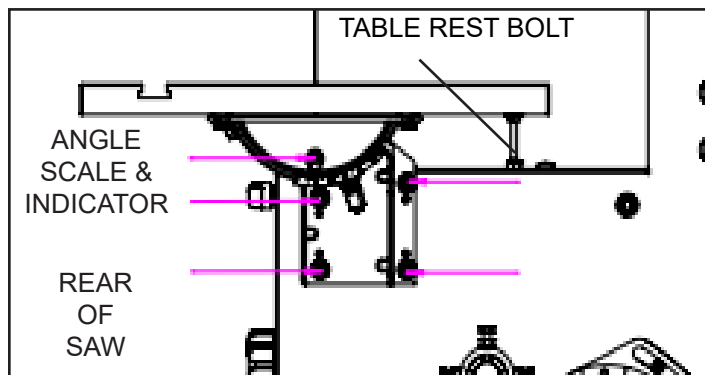

FIGURE 9
1. Loosen the four Hex Flange Nuts (#149) that hold the lower trunnion and table to the bandsaw frame. FIG. 9.
5. With the table secured in position, check that the table Angle Indicator (#147) reads zero degrees on the scale on the lower trunnion. Loosen the screw holding the indicator and reset if necessary to the zero degree reading. FIG. 9.